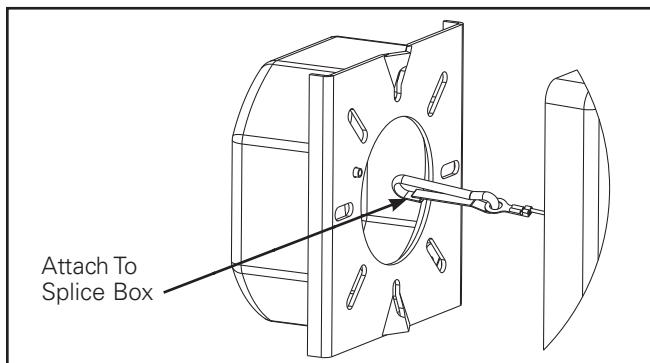

Figure 2
3. Attach rear wall mount tether to splice box mounting screw (see Figure 2).